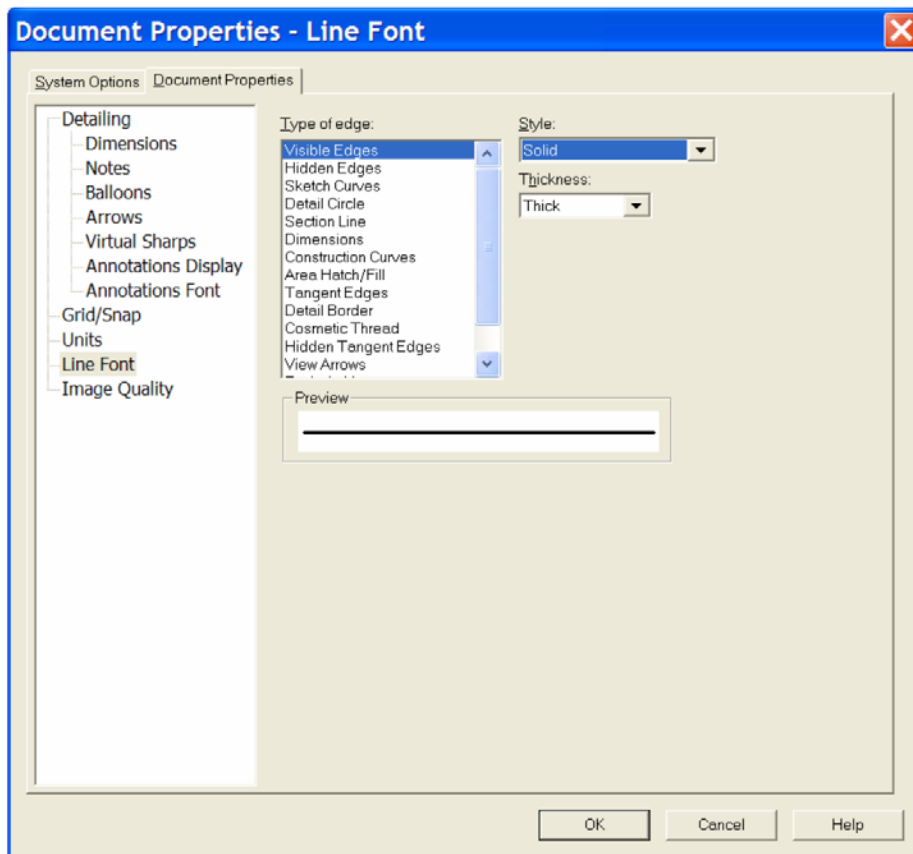

Figure 5
8. Line thicknesses may be changed from the **'Tools', 'Options...'** drop down menu. Open the Systems Options window and select **'Document Properties'**. Select **'Line Font'**. See Figure 5. From this window we may choose many 'types' or 'styles' of lines and choose their 'thicknesses'. Make the following settings in this window;